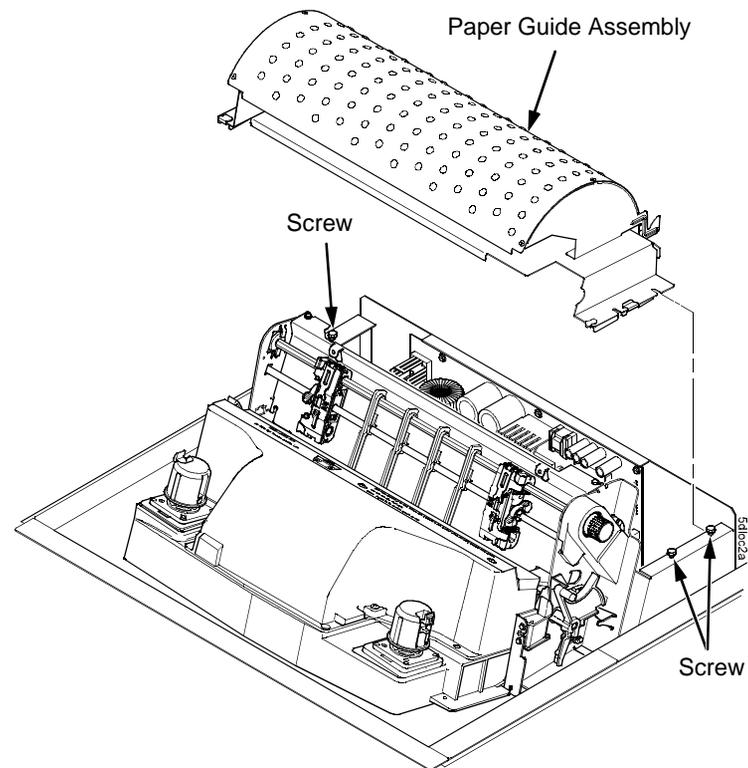

Figure 85. This figure shows how to remove the paper guide assembly from the card cage.
4. Loosen—do not remove—the three screws that secure the paper guide assembly. Slide the paper guide assembly to the left and lift it off the card cage. (Figure 85.)